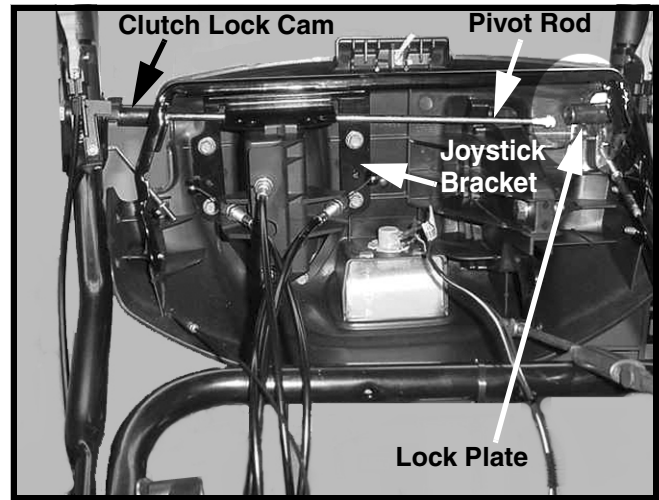

**FIGURE 4**
8. Remove and save the two self tapping bolts that attach the panel assembly and LH upper handle to the panel bracket. . See Figure 4.